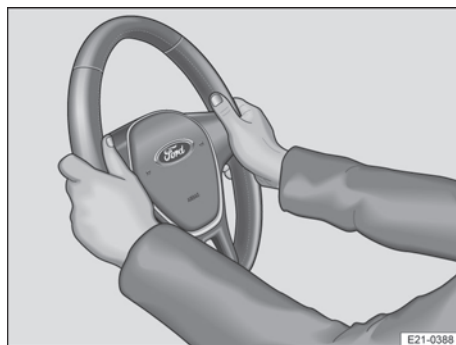

Fig. 62 On the steering wheel: 9 o'clock and 3 o'clock position.
2. Adjust the steering wheel so that you can hold it with both hands at its circumference at the 9 o'clock and 3 o'clock positions with your arms slightly bent → Fig. 62.